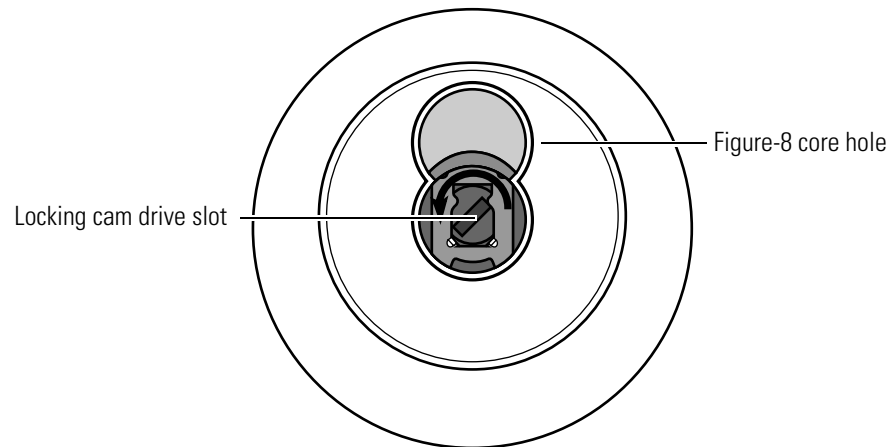

Figure 3.28 Intermediate position of the G function locking cam
3. Looking into the figure-8 core hole in the other knob, turn the locking cam drive slot until it stops, as shown in Figure 3.28.